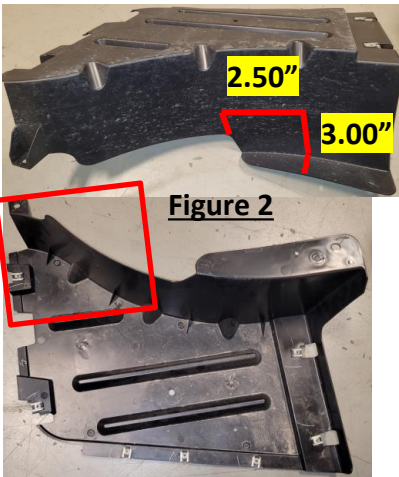

Figure 2
- Trim appearance panel:** Using die grinder, trim area shown in **Figure 2**. Reinstall appearance panel using (6) screws and (1) rivet removed in step 2.